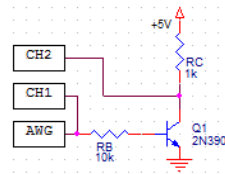

Figure 68: Amplifier circuit
- 1) Build the circuit shown on figure 68.